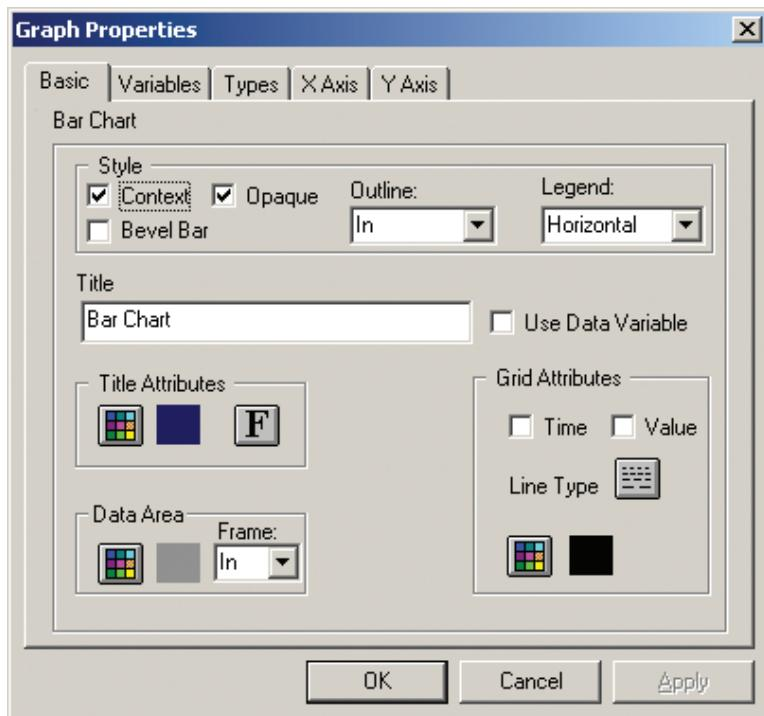

Figure 18: Graph Properties dialog
1. Double-click the graph to view the **Graph Properties** dialog, see Figure 18.